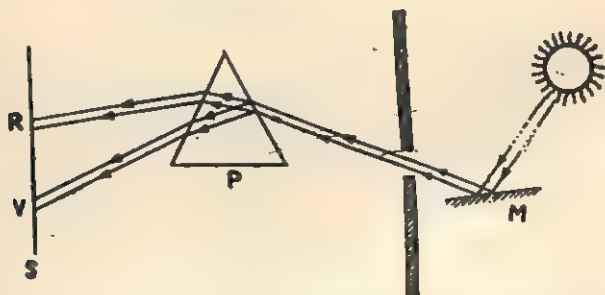

Fig. 11.2. Demonstration of Dispersion of Sun Rays.
**Procedure.** (1) Cut a small slit in the black paper and paste this paper on the plane mirror  $M$  such that only the slit portion permits the reflection of light as shown in Fig. 11.2.
(2) Throw sunlight with the help of the mirror  $M$  inside the class room.
(3) Place the prism in the path of the sun rays in the class room in such a way that the rays fall on one of its *faces*. Adjust the inclination of the face by rotating the prism. At some position of the prism, you will observe a coloured belt on the wall facing the sun rays. The coloured belt may also be observed either on the ceiling of the room or on the floor.
(4) Observe the colours, in the belt. You will find seven colours in it in the following order : Violet, Indigo, Blue, Green, Yellow, Orange and Red. As an aid to memory, the order of the colours may be remembered by the word **Vibgyor**. However, the colour belts are not seen distinctly, i.e., there is overlapping of colours at the edges of the belts.